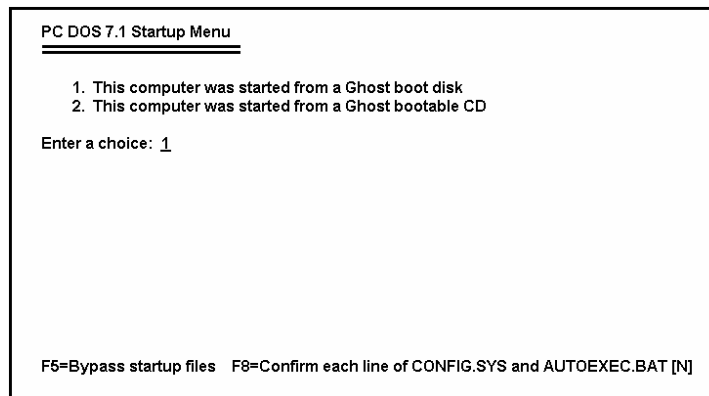

Figure 1-161. Startup Menu
6. Power ON the Drive Duplicator and wait for the system to load. The "PC DOS 7.1 Startup Menu" is displayed (Figure 1-161).